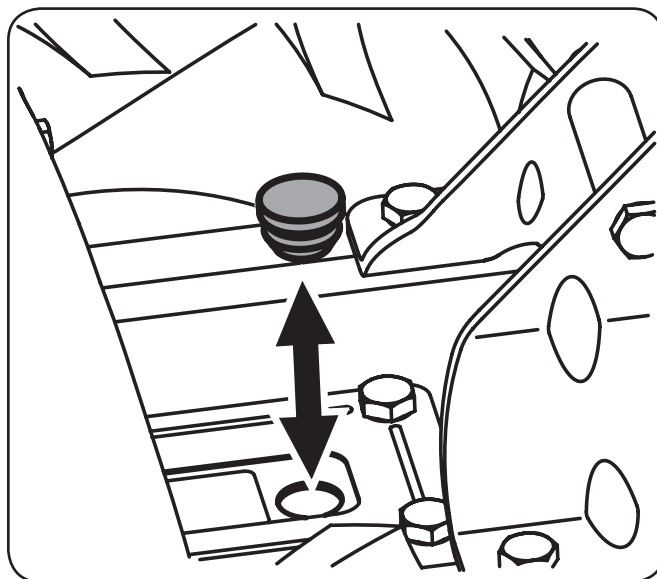

Figure 6-2
3. Remove the oil fill plug from the transmission housing and look inside the oil fill hole to locate the main drive shaft situated below the hole. See Figure 6-2.